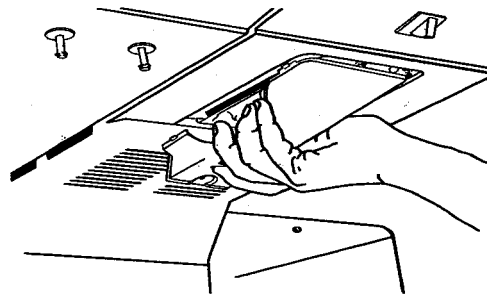

Figure 38
- d. Unscrew screw at back center of light cover and pull light cover straight down. (There are small supports on each side to hold cover in place that need to release.) See Figure 38.